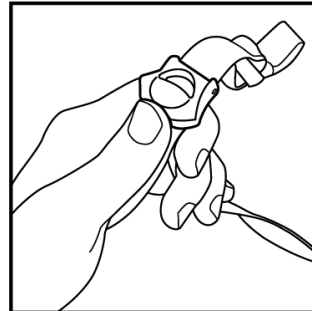
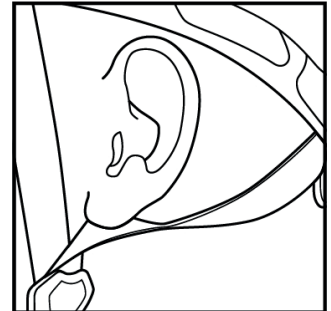

Figure 2
Figure 3
A. Open the Cam-Lock adjusters (Figure 2). Put the helmet on and slide the straps through the adjusters until they are located in the correct position as indicated in (Figure 3).
B. Make sure there is no slack in any of the straps when the adjusters are positioned correctly. C. Close and lock the Cam-Lock adjusters. The front and rear straps should join at the point slightly below and in front of (but not covering) the ears (Figure 3).